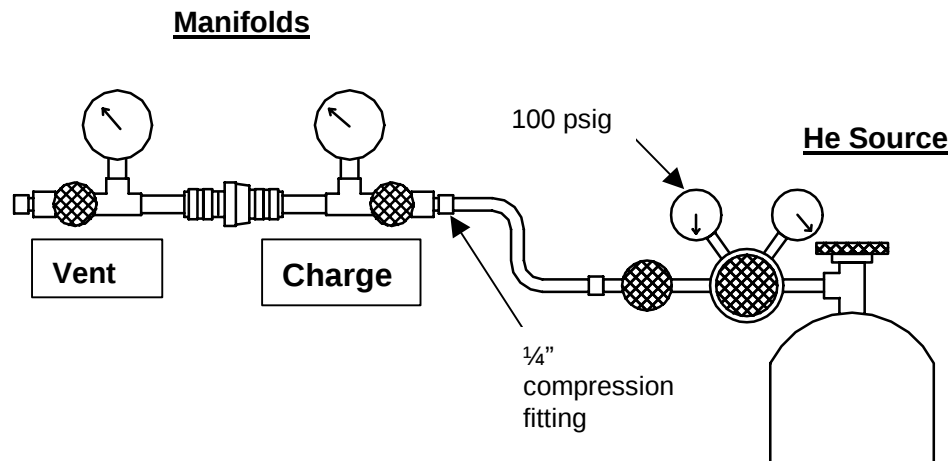

Figure 9: Manifold Purge
- 5.3. Connect helium source hose to the Charge Manifold 1/4" compression fitting per Figure 9. **DO NOT OPEN VALVE ON CHARGE MANIFOLD AT THIS TIME.**